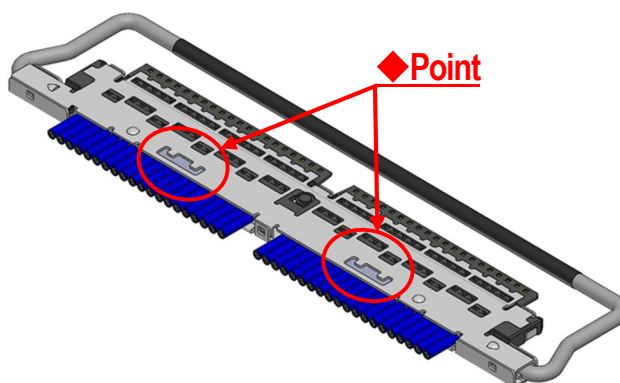

Fig.8 Soldering of Shell-B and Ground Bar
③ Soldering shell-B and ground bar with the soldering iron at all designated points is recommended. (Fig.8 ◆ point)